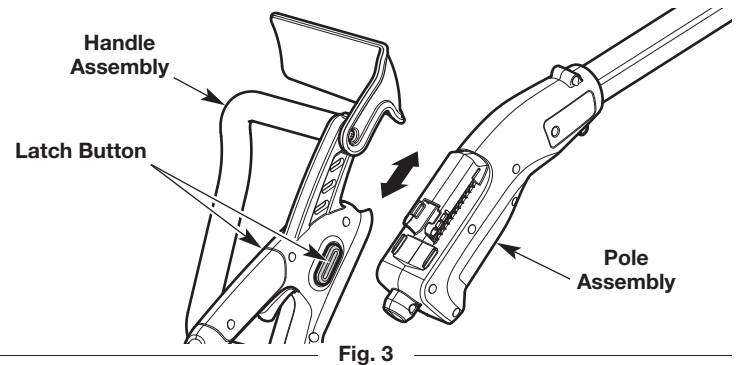

Fig. 3
4. **Connect the handle assembly to the pole assembly (Fig. 3):** Press and hold the latch buttons on both sides of the handle assembly. While continuing to press the latch buttons, slide the handle assembly onto the pole assembly. Release the latch buttons and gently pull the assemblies to make sure they are completely connected.
2. **Disconnect the handle assembly from the pole assembly (Fig. 3):** Press and hold the latch buttons on both sides of the handle assembly. While continuing to press the latch buttons, slide the handle assembly off of the pole assembly.